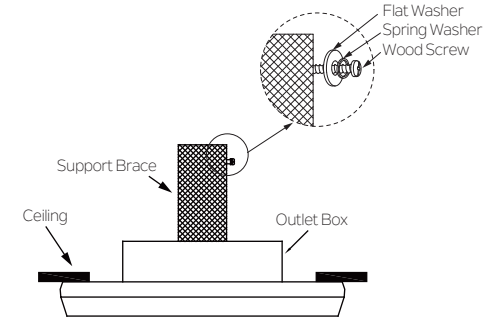

Fig. 11
**Step 1.** Slip the spring washer, then the flat washer onto the wood screw, then drive the wood screw into the side of the brace that holds the outlet box. Leave 3mm (1/8") of space between the support brace and the flat washer. (Fig.11)